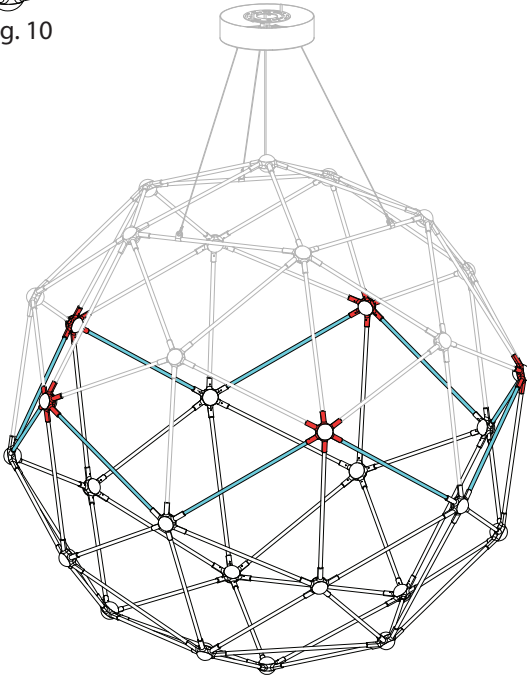

Fig. 11
- c. Fig. 11 shows this step in the context of the assembly as a whole.